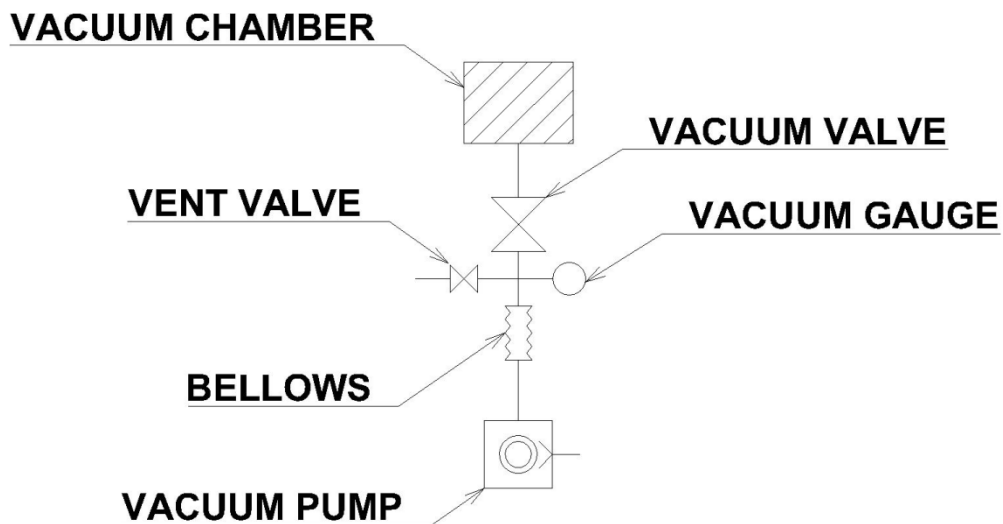

Fig. 5 Connection to vacuum chamber (example)
3) Provide a vacuum valve, vacuum gauge and vent valve between the vacuum chamber and pump, as shown in Fig. 5.